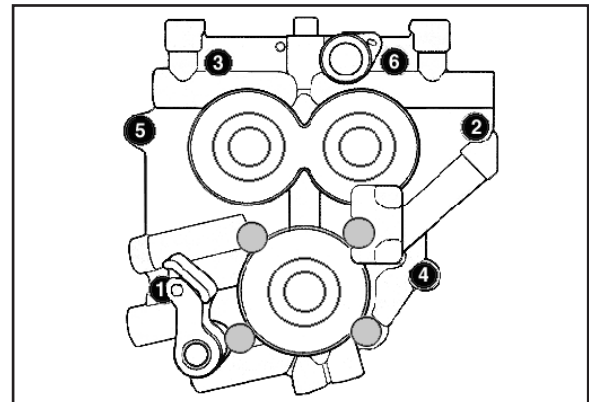

Figure 2
- L. Following sequence shown, alternately loosen and remove cam support plate bolts. See **Figure 2** below right.
H. Loosely install support plate screws with a drop of Loctite® threadlock 242 or 243 (blue). Alternately tighten screws to 95 in-lbs. torque following sequence shown. See **Figure 2 Page 5**.
Support plate screws that pass through alignment dowels (See positions 1 & 2 in Figure 2) can be easily stripped when applying maximum 120 in-lbs. torque as recommended by Harley-Davidson®.